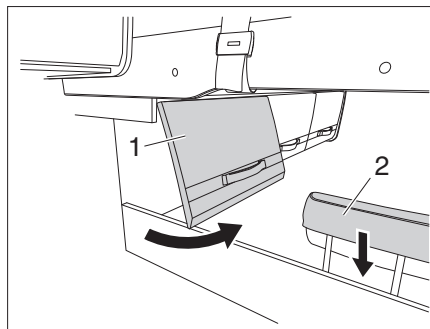

Fig. 162 Storage compartment flap and headrest
- Open the storage compartment flap (Fig. 162,1).
- Lower the headrest (Fig. 162,2).